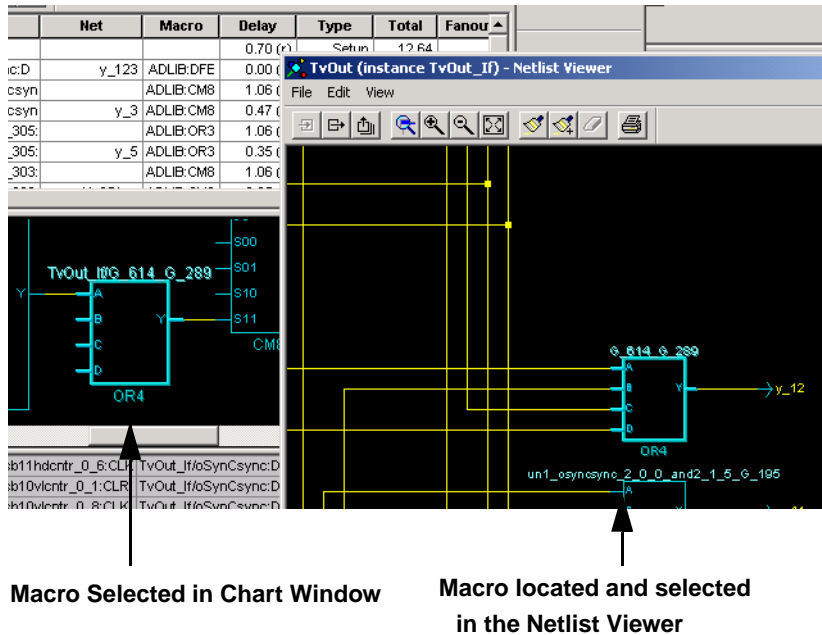

Figure 3-8. Selected Macro is Located and Selected in the Netlist Viewer
- Select the Macro in the Chart window.** The macro is located and selected in the Netlist Viewer, as shown in Figure 3-8.